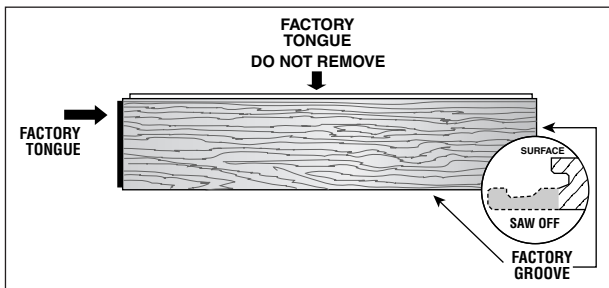

Fig. 45
6. Prepare replacement board by removing bottom of groove on end and side (Fig. 45).